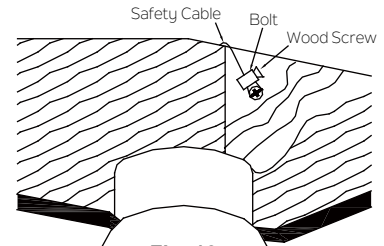

Fig. 12
**Step 2.** Insert the safety cable through the mounting bracket and one of the holes in the outlet box into the ceiling. Adjust the length of the safety cable to reach the screw and washers by pulling the extra cable through the cable clamp until the overall length is correct, put the end of the cable back through the cable clamp, forming a loop at the end of the cable. Tighten the cable clamp securely. Now, put the loop in the end of the safety cable over the wood screw and under the washer. Tighten the wood screw securely. (Fig. 12)